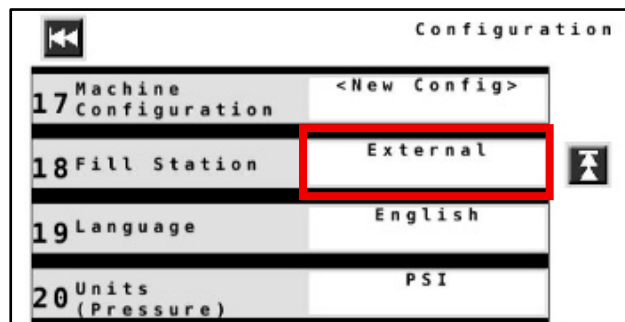

Figure 4 — Configuration Menu – Page 3
8. **Figure 4:** Change **Fill Station** option to **External**.